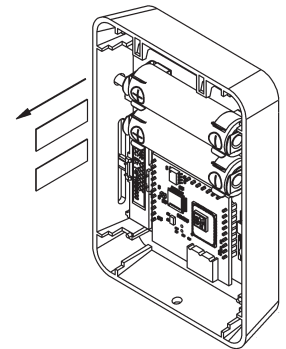

Fig. 5: Battery insulator tab removal
2. **Battery Tab Insulator Removal for Battery Power Units:** If the unit is ordered with battery power, it will come with two pre-installed batteries. To activate the unit, find the battery tab insulators and pull them out (Fig. 5). The unit will begin transmitting at approximately 5 minute intervals. The transmission LED on the circuit board will illuminate during each transmission.